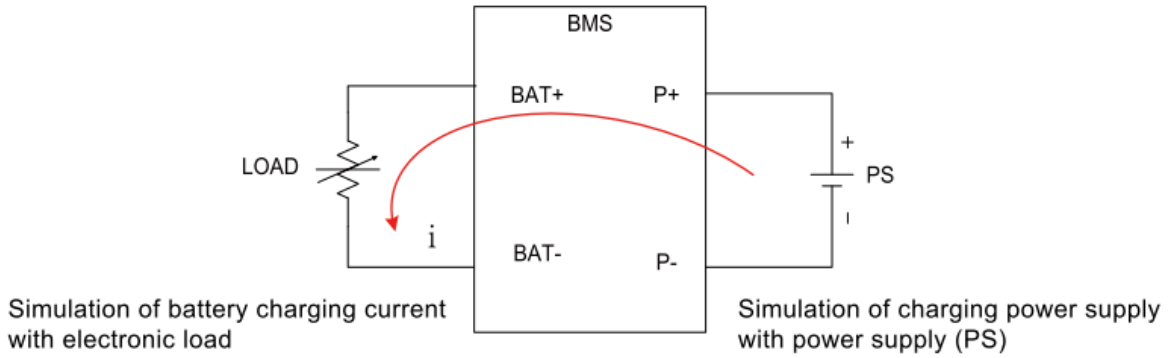

Figure 5-18 Equivalent simulations of BMS charging
- Overcharge Current Protection (OCCP) test method: The test method is divided into single pulse and continuous step pulse. Single pulse can be used for rapid test. It can be used for a large number of fast tests suitable for the production line. Continuous step pulse can be used to scan the actual over current protection point. Suitable for research and development that needs accurate point. The power supply (PS) & LOAD connection and test procedures are shown in Figure 5-18.